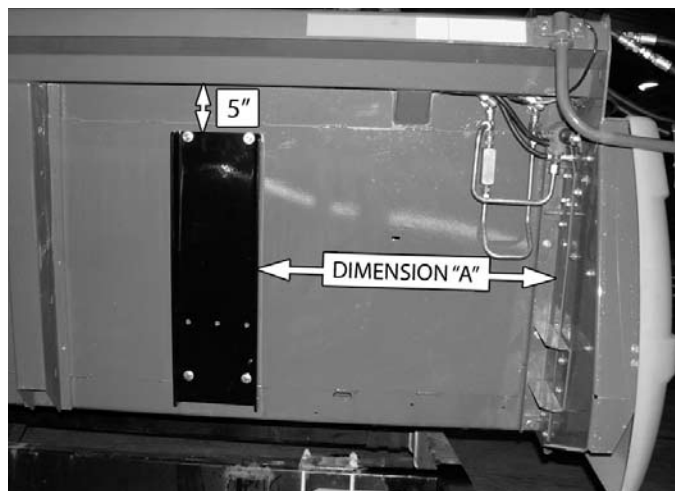

Figure 4, Mount plate support
1. Position the mount plate support on the rear right hand side of the header as shown in Figure 4. Refer to Table 1 for Dimension "A."